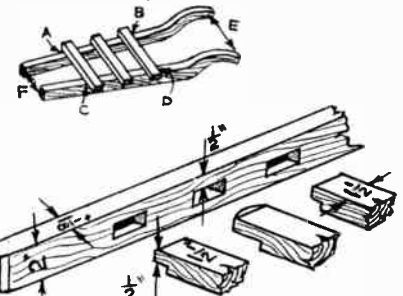

Fig. 2
The cross pieces (P) are cut from 1½ ins. by 1½ ins. material and are tenoned into the sides. Note from Fig. 2 that there is only one shoulder on the
Fig. 2 shows how the cross pieces and sides are placed for marking the joints. Widths (E) and (F) (14 ins. and 8 ins.) are set, while points (A), (B), (C), (D)—the outer edges of the mortice positions—are 'squared' up, using a strip of wood diagonally to test. Move one side back or forth until these points are squared, so that when the cross pieces are placed on top they will be parallel, and the sides are symmetrical in their taper.